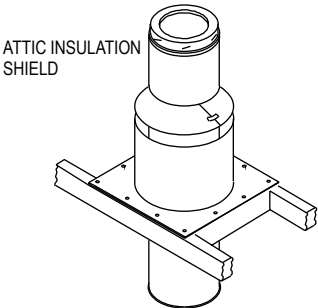

Figure 10
8. Install Attic Insulation Shield: The Attic Insulation Shield is required where the chimney passes into an attic. Its purpose is to prevent debris and insulation from getting too close to the chimney (**Fig 10**). An installed Attic Insulation Shield is 15 inches high. In attic areas where this shield cannot fit, you must enclose the attic portion of the chimney in a framed enclosure. If the chimney is fully enclosed through the attic, an Attic Insulation Shield is not required. If the chimney passes into the attic, install the Attic Insulation Shield as follows:
- e. Secure the Attic Insulation Shield to the top of the framed opening using at least (3) 8-penny nails or (3) #8, 1-1/2" wood screws per side (**Fig 10**).